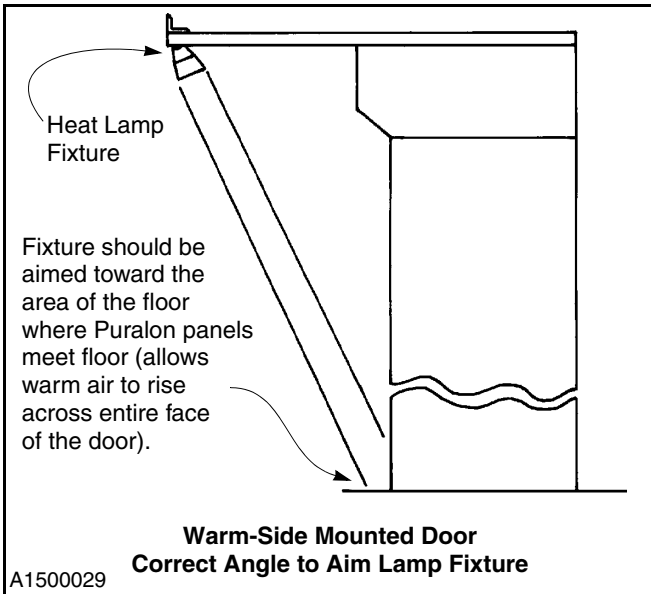
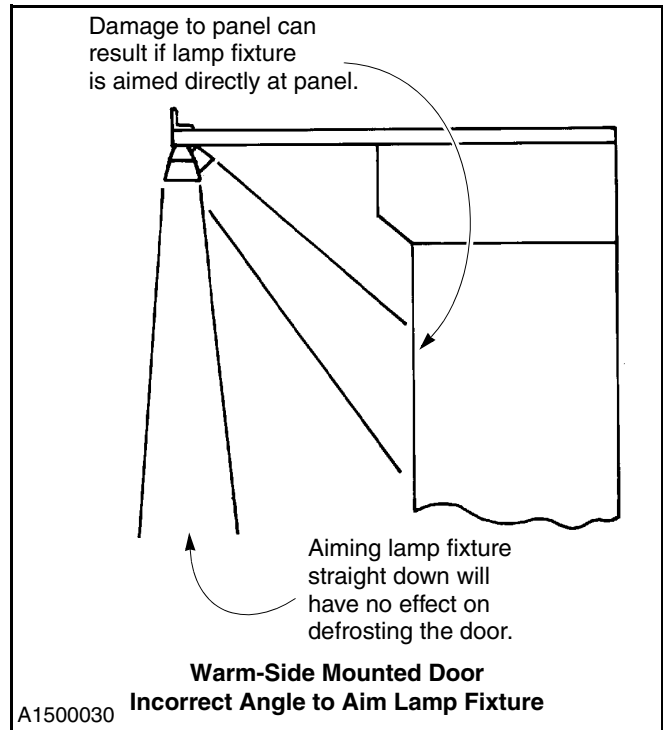
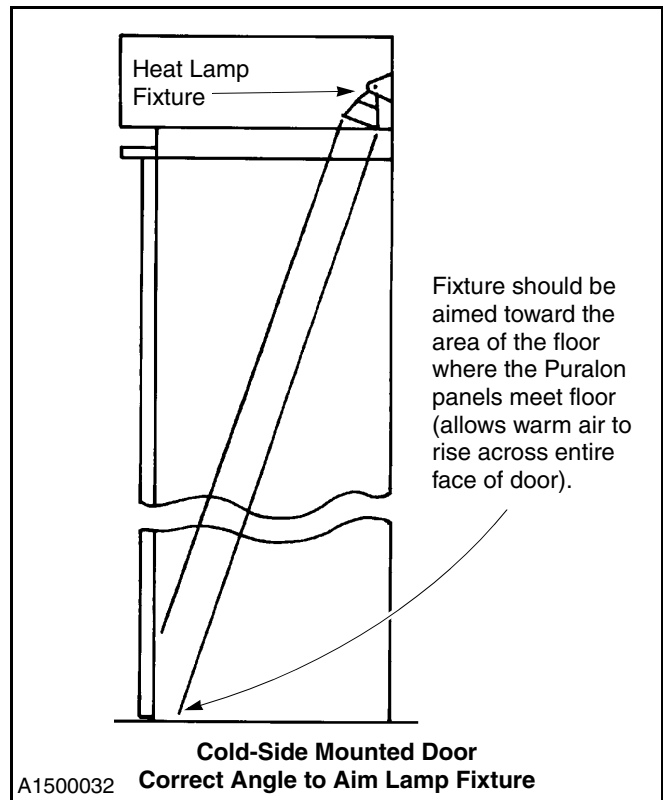
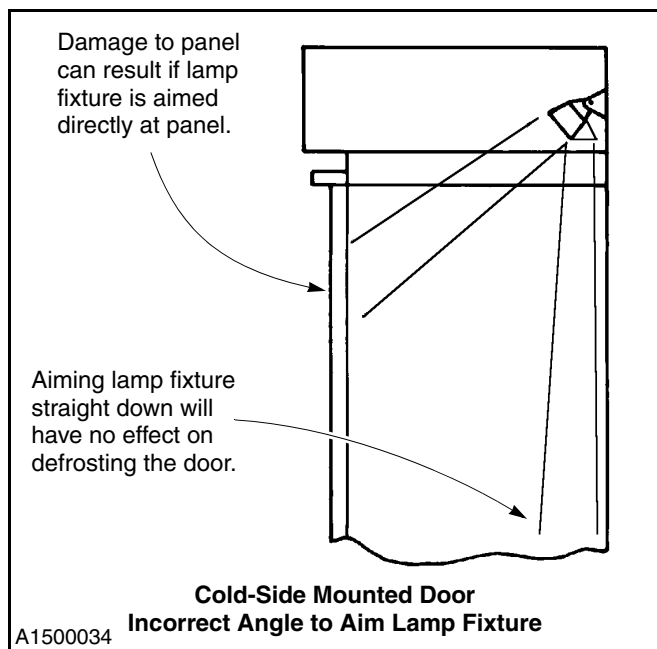

Figure 24
Figure 25
Figure 26
Figure 27
Figure 24 and Figure 26 show the correct angle to aim a heat lamp. Figure 25 and Figure 27 show two angles not to use. If the heat lamps require adjustment, see "Heat Lamp Adjustment (Warm-Side and Cold-Side Mounted Doors)" on page 13.
- Check the direction of the air flow out of the blower unit — it should be directed toward the lower part of the door when it is closed (similar to what is shown in Figure 24 and Figure 26). If the air deflection fins on the blower unit require adjustment, see “Blower Air Deflection Fin Adjustment” on page 15.